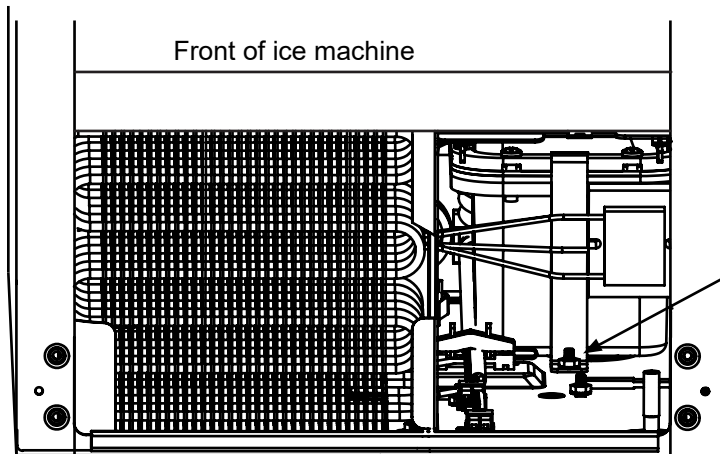

Figure 40
3. Remove the front and rear drain pump brackets. See Figures 40, 40a and 41.